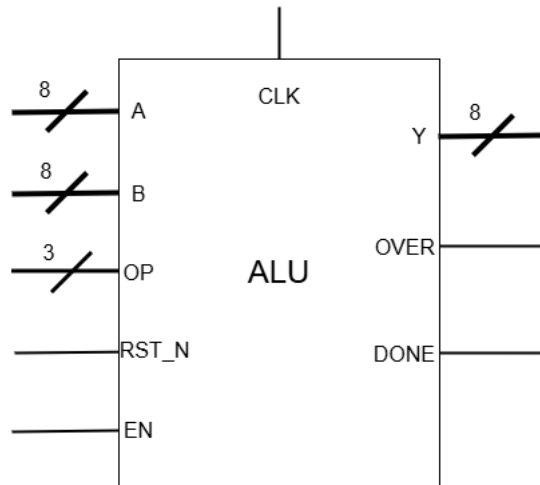

Figure 1: ALU Inputs and Outputs
This 8 bit ALU accepts two 8 bit operands A and B, along with a 3 bit opcode (OP). The state of the ALU is controlled by an active high enable pin (EN), and can be reset using the active low reset pin (RST\_N). As this ALU supports sequential operations which may take more than one clock cycle, the CLK input must be connected to a clock signal. The ALU provides one 8 bit result output (Y) an overflow flag (OVER) and a done flag (DONE). A table of the ALU's supported operations is given in table 1. A diagram of the inputs and outputs is shown in figure 1. A description of the function of each bus/pin is given in table 2.